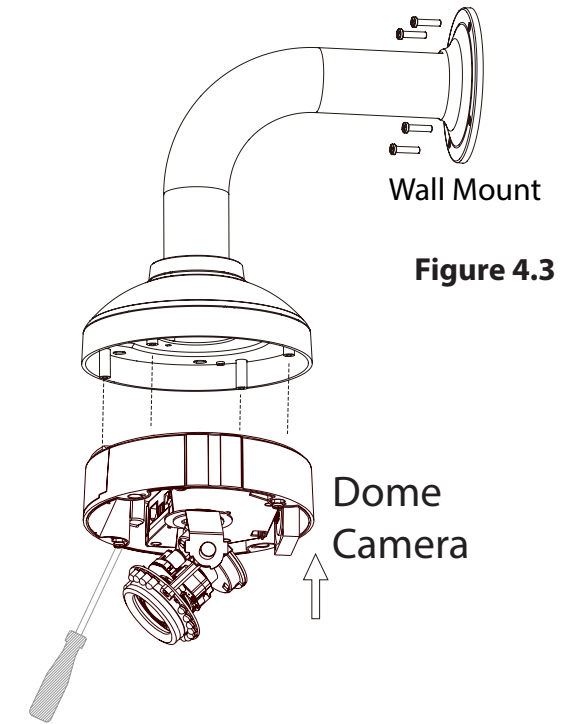

Figure 4.3
10. Place the dome body onto the base of the camera. (Figure 4.3)